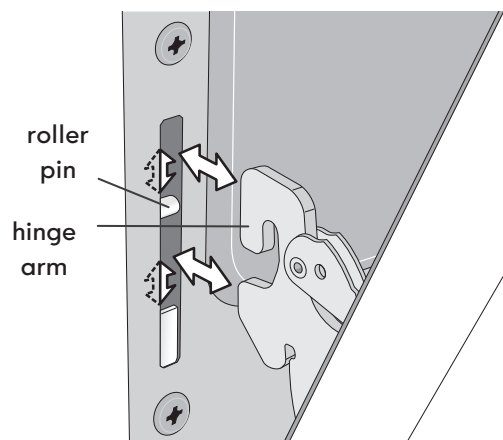

Figure 10: Removing and replacing over-hinge supports
4. Pull the bottom of the door toward you while rotating the top of the door toward the appliance to completely disengage the hinge levers (Figure 10).
2. Hold the oven door at the same angle as the removal position. Carefully insert the hinge levers into the oven frame until you feel the hinge levers are seated into the hinge notches. The hinge arms must be fully seated into the hinge notches before the oven door can be fully opened. (Figure 10).